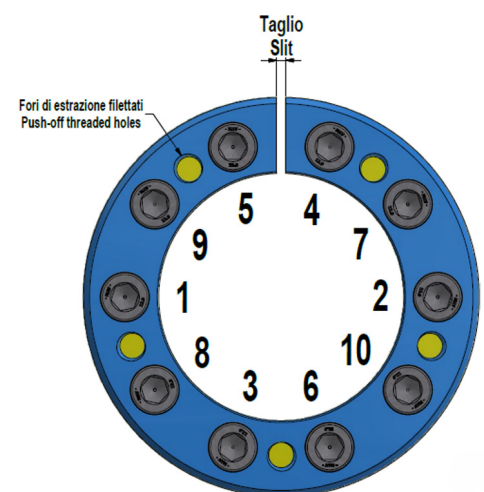

Fig. 3
4. Tighten the screws by hand in a crosswise pattern, starting with a screw located at 90° approx. respect to slit (fig. 3), until fitting clearances with shaft and hub bore are bridged and connected components are slightly locked, while making sure that hub is aligned as required using a dial indicator. **Better centering of hub from the beginning of installation is essential for better centering when installation is completed.**
5. Use a torque wrench set approx. 5% higher than specified tightening torque (Ma), or reduced within admissible value. **Progressively tighten the screws in a crosswise pattern (fig. 3), using approx. ¼ turns for several passes** until ¼ turns can no longer be achieved. Start with a screw located at 90° approx. respect to slit; screws adjacent to slit shall be tightened in a row.